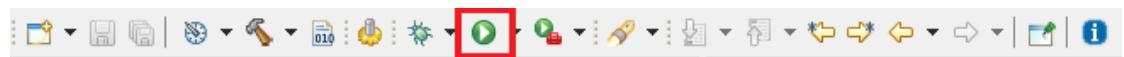

Figure 35: *STM32CubeIDE* menu icons - Run
7. If your target is connected to the computer click **Run → Run** or click on the *Run* icon as seen in Figure 35. The program is now transferred to the target and is automatically started.